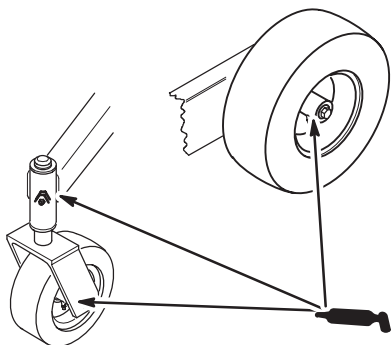

Figure 29
1. Lubricate the front wheel bearings and front spindles until grease begins to ooze out of the bearings (Fig. 29).
2. Remove rear wheel grease cap. Lubricate the rear wheel bearing (Fig. 29).
1. Lubricate the transmission couplers located in the back of the machine (Fig. 29).
2. Lubricate the idler bracket pivots located in the back of the machine (Fig. 29).